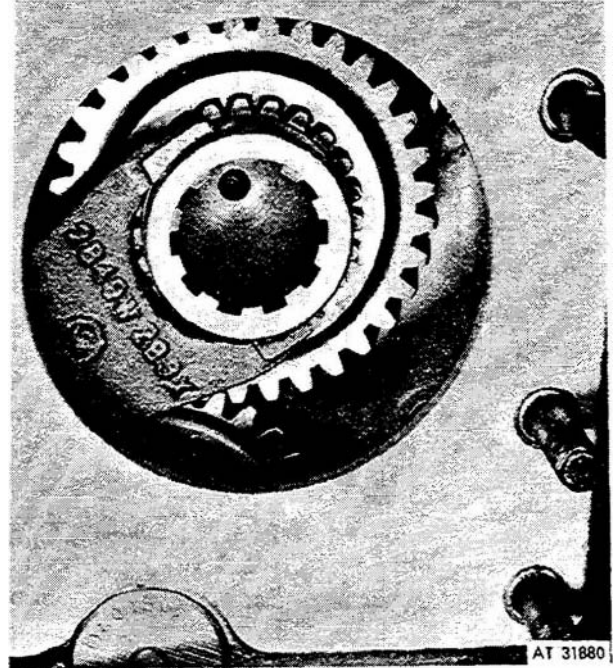

Figure 3-84. Proper installation of clutch gear.
(32) Connect gasket (25) and cover (26) to transfer case (9) and secure with screw (19) and lock washer (20).
(33) Connect splash plate (5) to cover (3) and secure with screw (6). Lockwire screws.
(34) Connect cover (3) and gasket (4) to transfer case (9) and secure with screw (16) and lock washer (15).
(35) Insert balls (8 and 13) and springs (7 and 14) through cover (3) into transfer case (9) and secure with bolts (1 and 18) and washers (2 and 17).
(36) Position clutch gear (29) on differential shifter fork (28) as shown in figure 3-84.